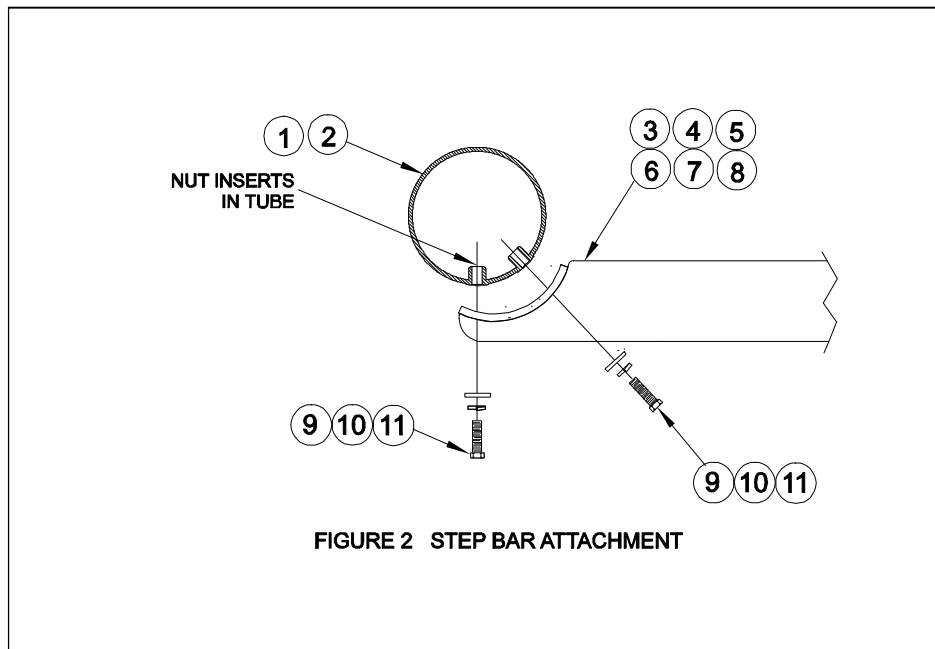

FIGURE 2 STEP BAR ATTACHMENT
- STEP 3.** Attach passenger side step bar to cradles with the Westin logo facing outward. **SEE FIGURE 2.**